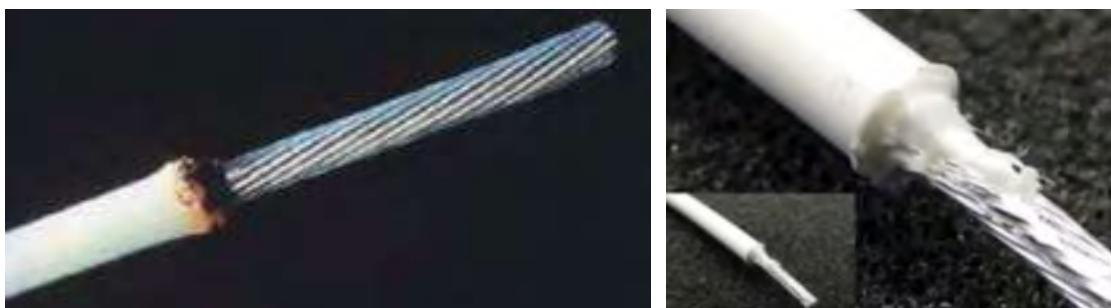

Figure 129
e. If thermal stripper was used, ensure the jacket is not burned or melted into the wire strands as shown in Figure 129.